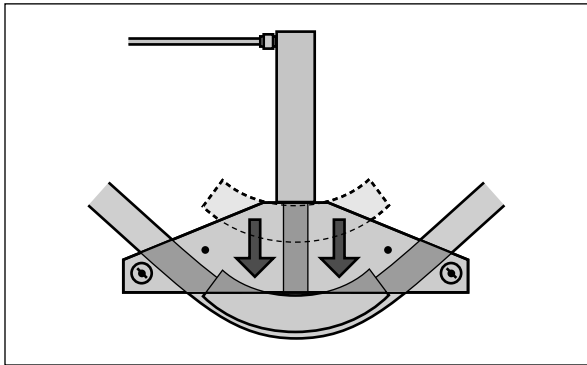

Figure 2
5.0 PIPE BENDING (see Figure 2 and 3)